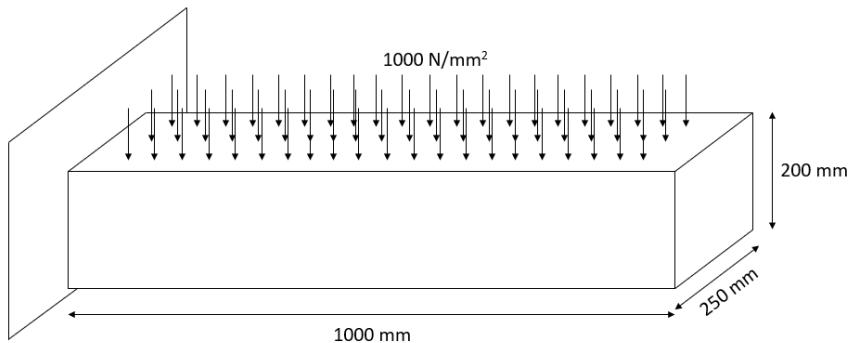

Figure 3
6. Find out the stress distribution of the cantilever beam of 1000 mm in length and has a 250mm x 200mm rectangular cross-section under the uniform distributed load of 1000 N/mm^2 applied on the top surface as shown in Figure 3. The section is made up of a concrete having a value of 25000 N/mm^2 for Young's modulus and a value of 0.2 for Poisson's ratio in the respective fields.